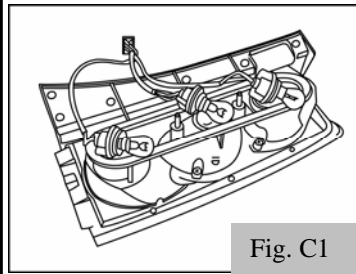

Fig. C1
1. Remove the wire harness/bulbs from the Taillight assembly. (Fig. C1)
- i. Note the positions of the (3) bulbs.